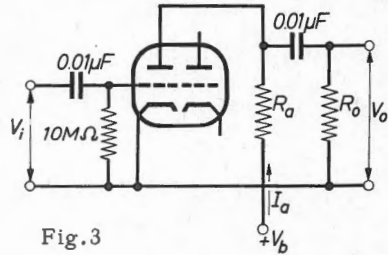

Fig. 3
A.F. amplifier Fig. 3 see page 9 Input source resistance = 330 k Ω